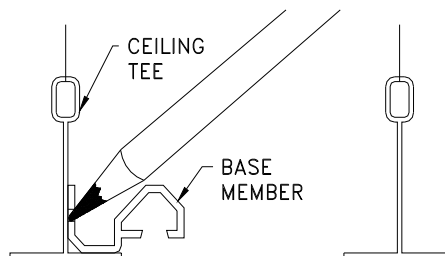

Figure 3
STEP 5. Select a section of the base member. Place the base member into its installed position on one of the selected ceiling tees forming the joint, and using the base member as a template, mark the locations for the anchor holes on the ceiling tee (see Figure 3). Ensure that the base member is level and properly aligned.